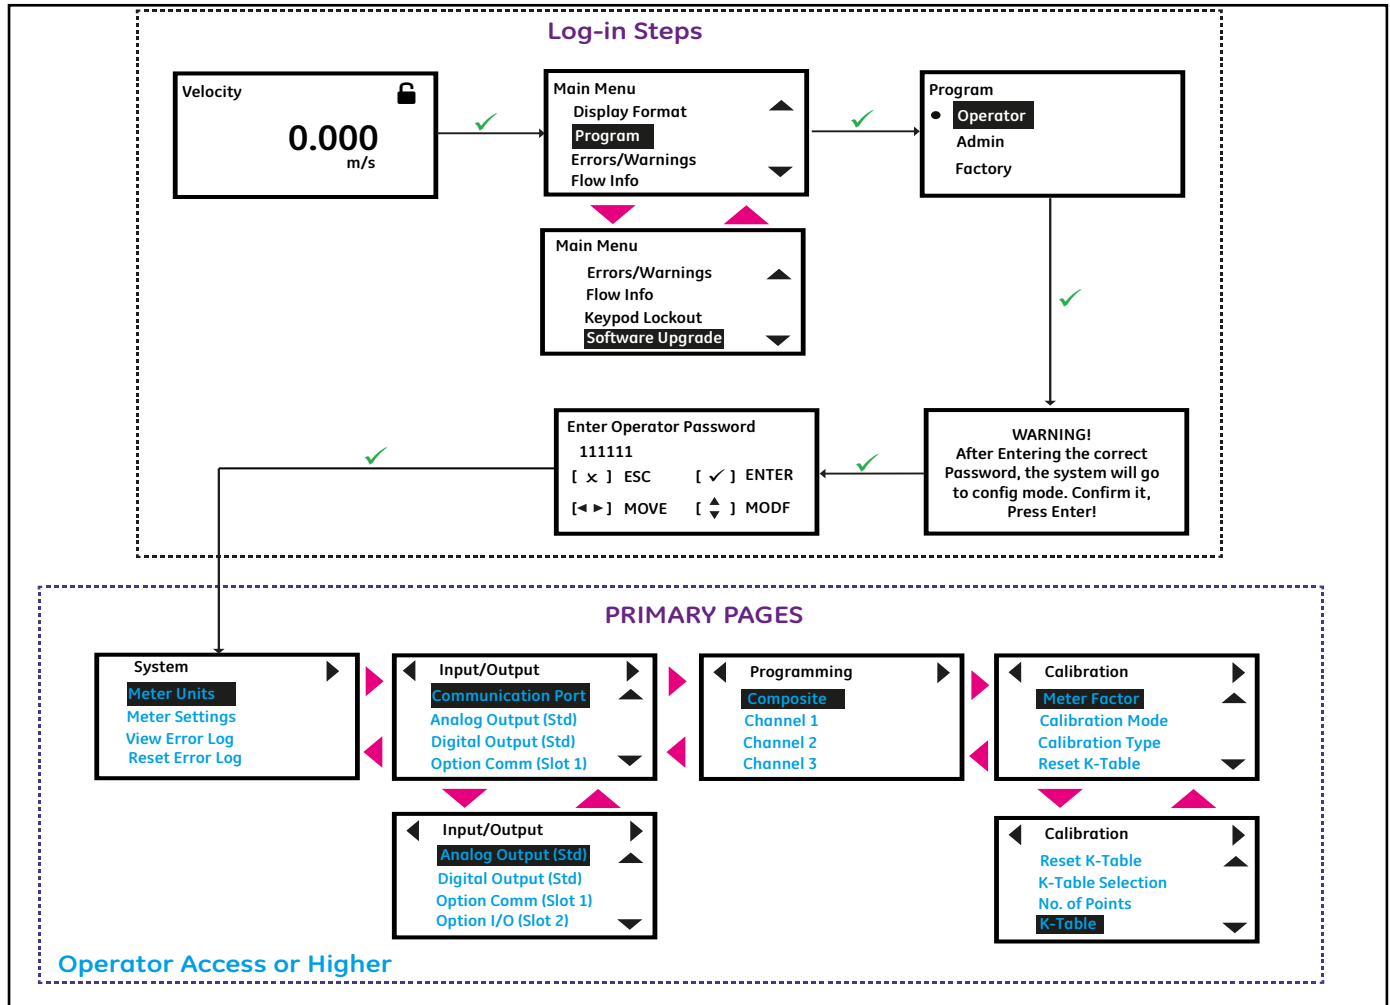

Figure 16: Log-in Steps and Primary pages
5. After completing the log-in steps you will see the primary pages as shown in the *Figure 16*. To move from one page to the next, press [◀] or [▶] and to scroll to options within a page press [▲] and [▼].